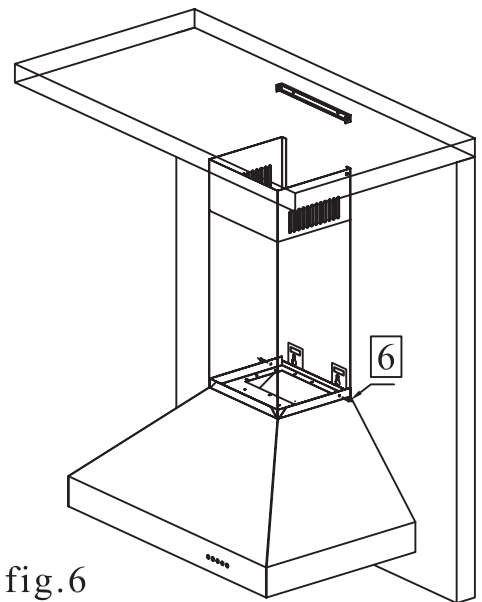

fig.6
**Step seven:** Install the 2 part chimneys on top of the hood by sliding the inside section up until the vertical vent slots are visible. Then put both pieces on top of the hood and secure the lower portion with the provided screw at the bottom. fig. 6